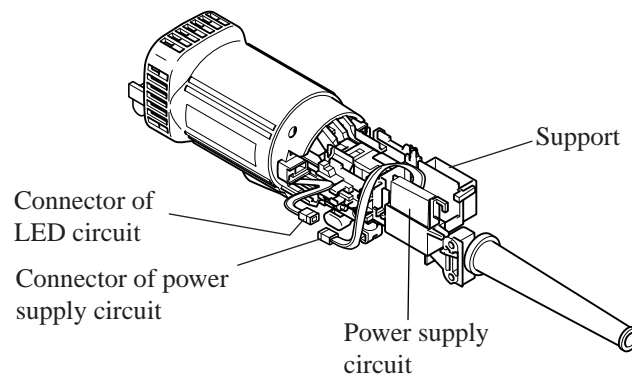

Fig. 15
(2) Disconnect the connector of LED circuit from the same of power supply circuit. See Fig. 15.